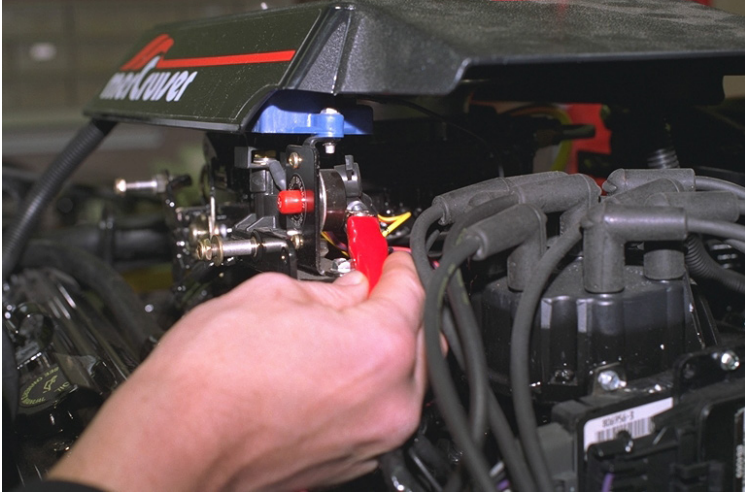

Figure 33 Circuit Breaker Terminal
- 5) **With the engine's ignition switch still in the OFF position**, connect the RED test lead to a +12 volt ignition power source. The engine's circuit breaker terminal, as shown in Figure 33, is a good connection for +12v power.
- 4) With the engine's switch still in the OFF position, connect adapter's RED test lead to a +12 volt ignition power source. The engine circuit breaker terminal is a good location for +12 volt power (as shown in Figure 33).